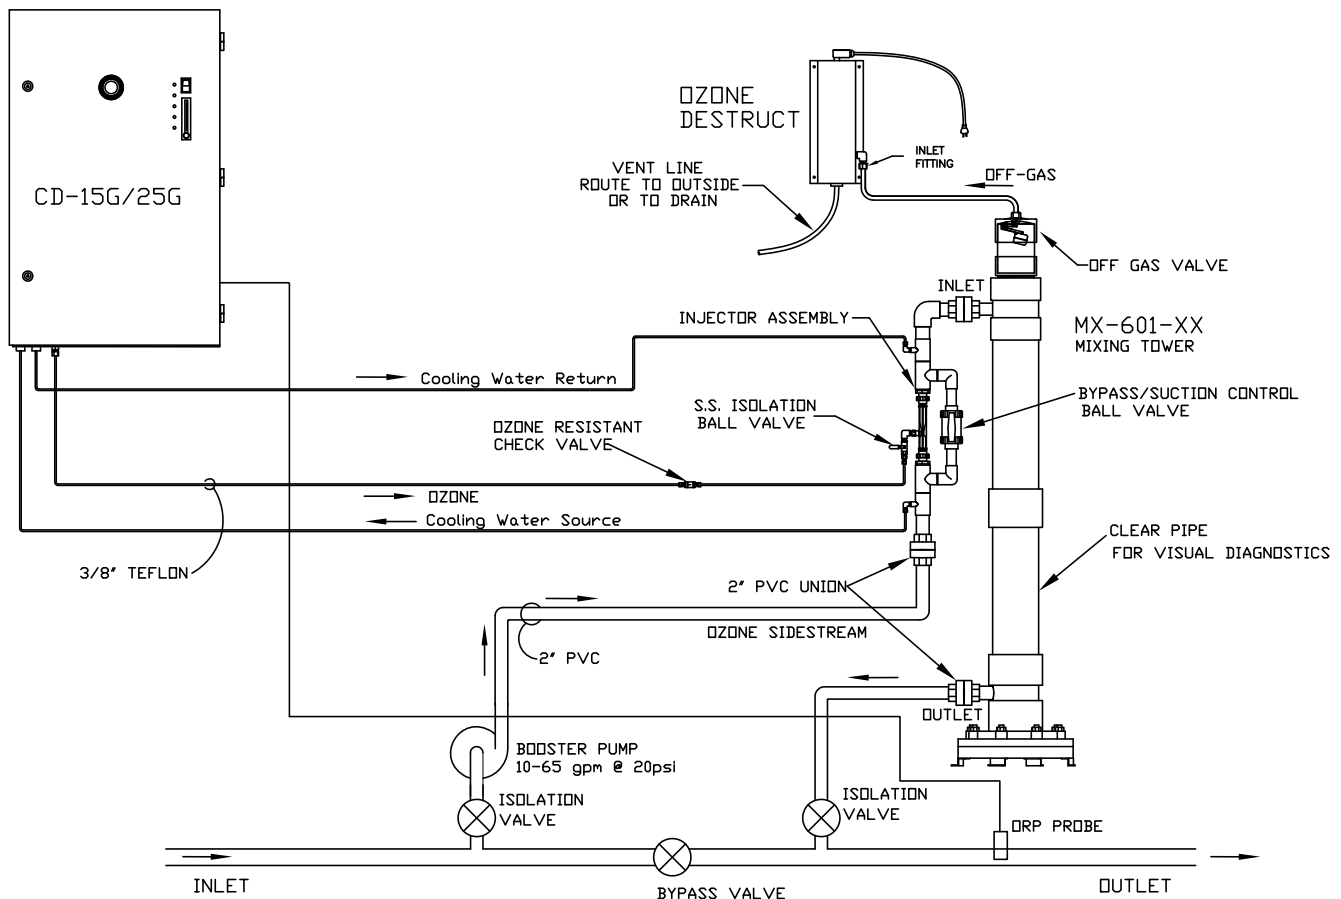

Figure 4: Plumbing Schematic - Example of Swimming Pool Application
2. Connect opposite end of ozone tubing to injector suction port. (Suction port fitting: 3/8" stainless steel compression fitting.) **See Figure 4.**
1/4" FPT connections are supplied on the generator. **See Figure 4, 5a, 6a.** Be sure that the tubing is appropriately matched with the marked inlet and outlet ports. Carefully match and connect to water plumbing as shown in Figure 4. Alternate method using connections at injector may be used.